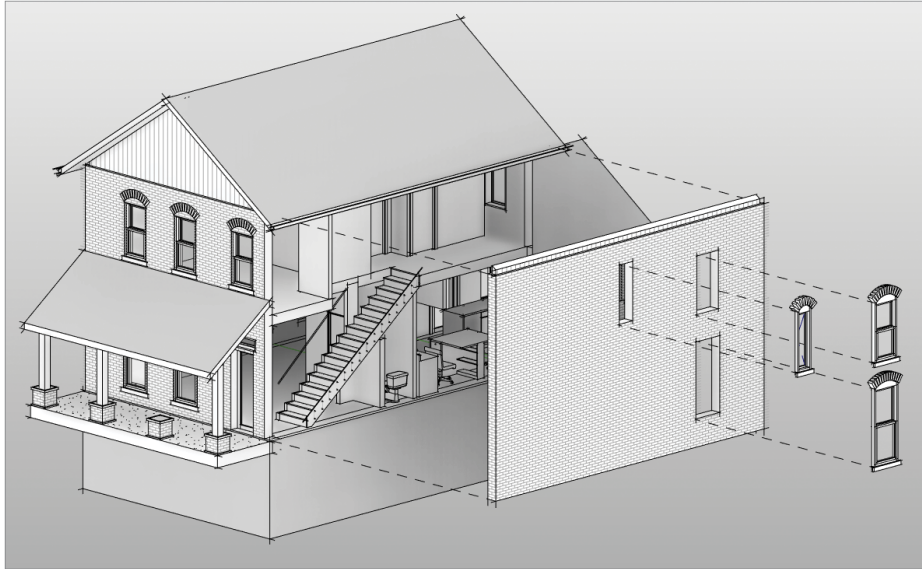

FIGURE 9.11 Finished exploded view
5. Now you can add graphic effects using the GDO to make a beautiful and informative presentation drawing using steps from the previous exercises. Your results may look like Figure 9.11.